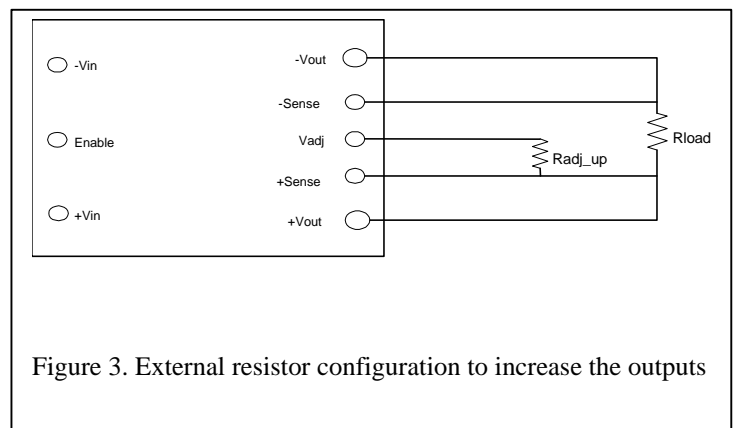

Figure 3. External resistor configuration to increase the outputs
12. Refer to Equation (1) and (2) and Figures 3 and 4 for the Output Trim Adjust configuration.